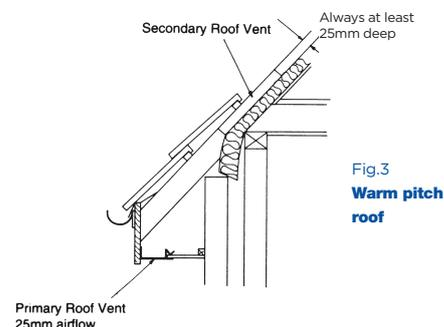

Fig.3
- With a pitched roof where the roof space contains living accommodation and part of the ceiling and insulation follow the same line as the rafters a free airflow is required which is equivalent to a continuous 25mm opening (25,000² mm per metre run). See fig. 3
- With a pitched roof where the roof space contains living accommodation and part of the ceiling and insulation follow the same line as the rafters a ventilation channel at least 25mm deep must be maintained between the roof insulation and the underside of the roof covering. See fig. 3